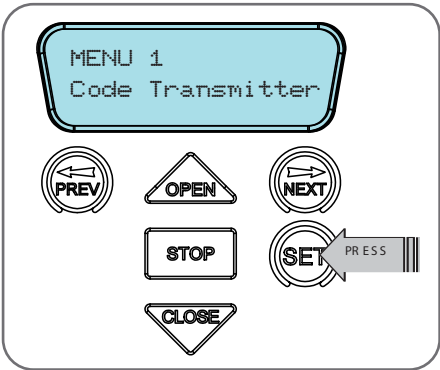

Fig F.1
- a. Press NEXT to navigate to Menu 1 (Fig. F.1) .